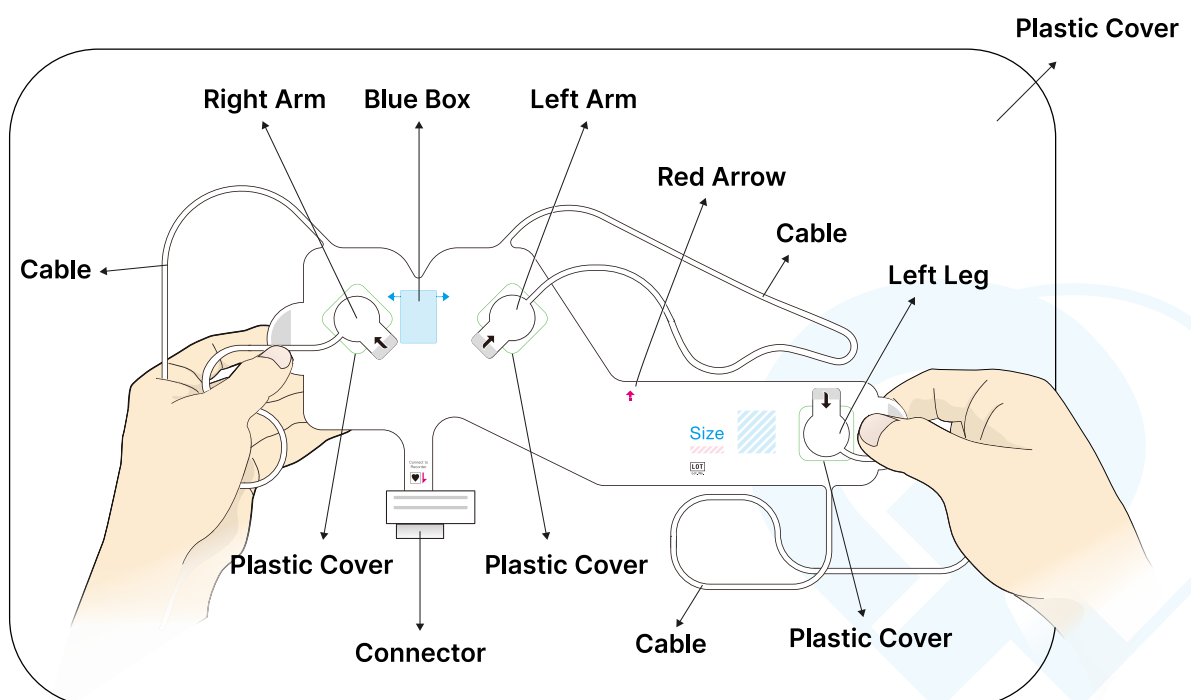

Fig. 3.1.2b
- C. Recorder Receptacle :** Used to connect with the QT ECG Electrode Strip Connector (Fig. 3.1.2b)